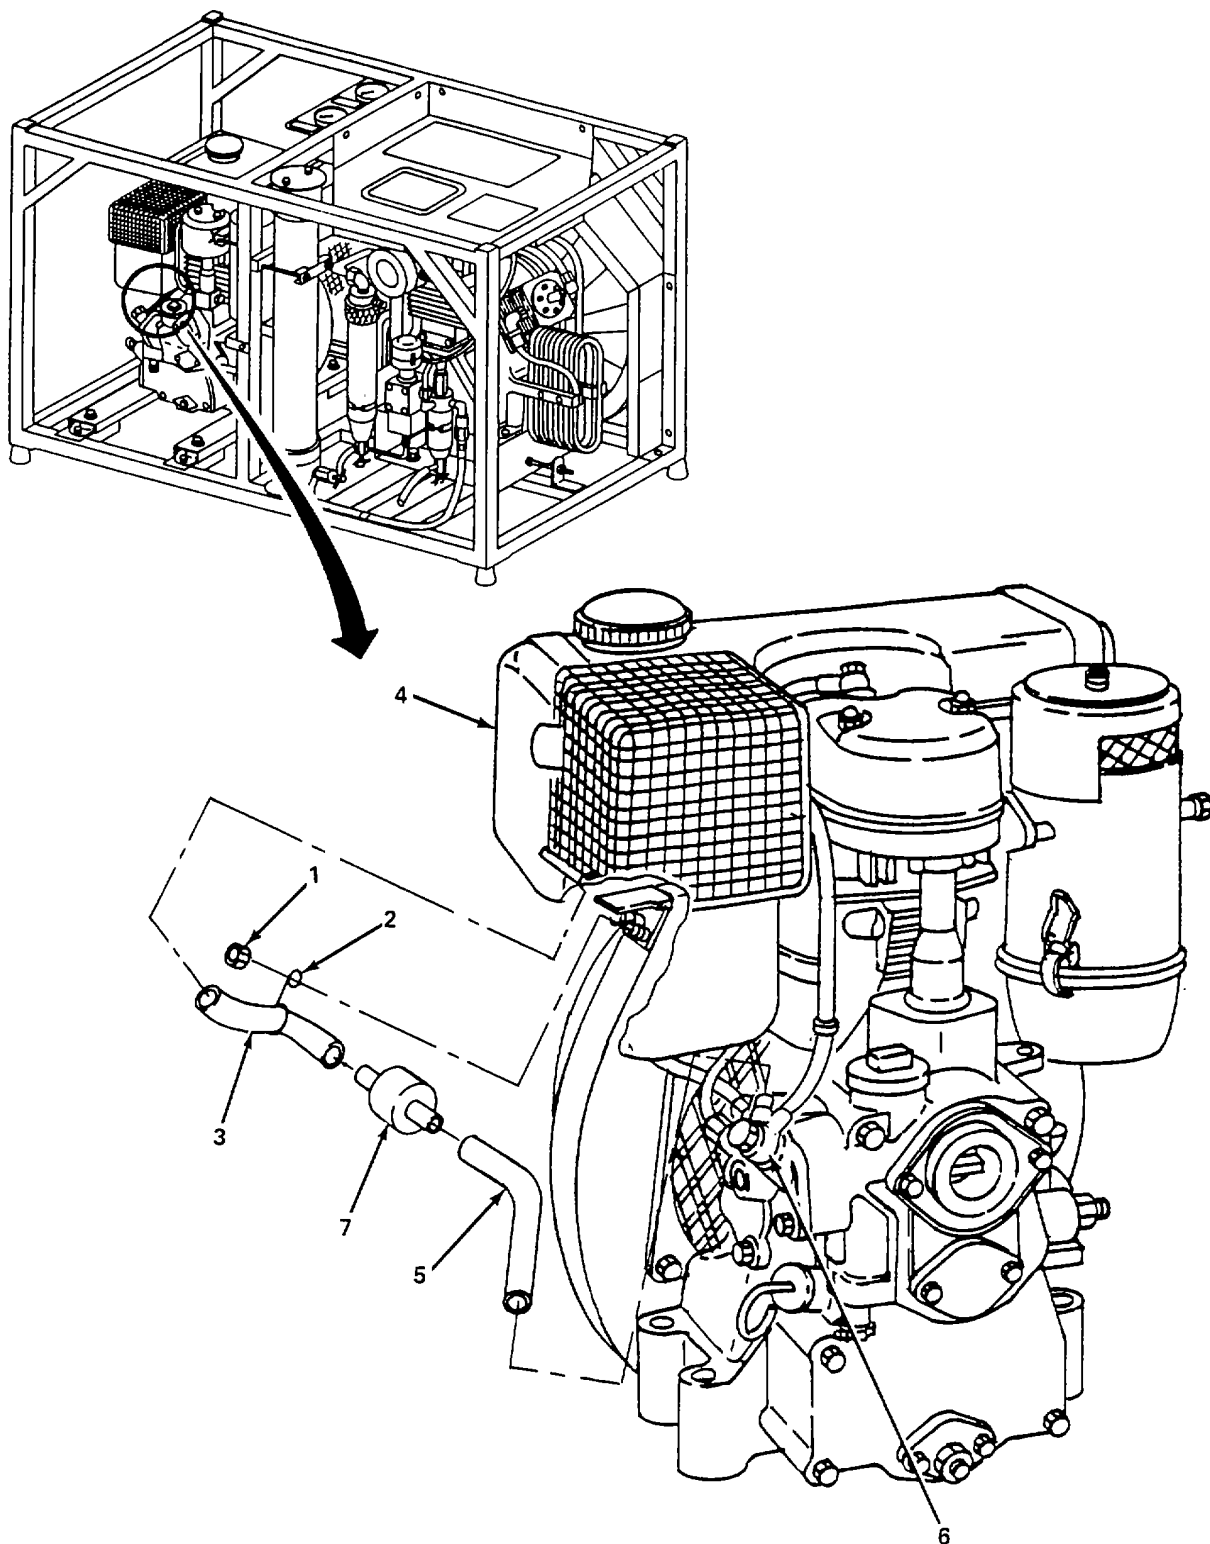

Figure 4-17. Fuel Supply Line and Filter, Replace
- (1) Fuel supply lines and filter assembly. (figure 4-17)
- (a) Remove nut (1) securing wire bracket (2).
- (b) Remove fuel line (3) from tank (4) and drain fuel into clean suitable container.
- (c) Remove wire bracket (2) from fuel line (3).
- (d) Remove fuel line (5) from pump (6).
- (e) Remove two fuel lines (3) and (5) from filter (7).
- (f) Replace filter (7) if more than 100 hours of operation have been placed on compressor.
- (g) Install new fuel lines (3) and (5) on filter (7).
- (h) Connect fuel line (5) to injector pump (6).
- (i) Install wire bracket (2) on fuel line (3).
- (j) Connect fuel line (3) to tank (4).